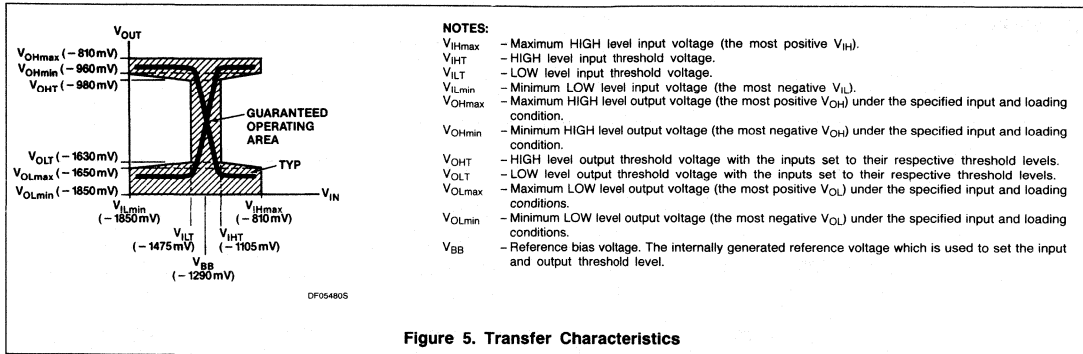

Figure 5. Transfer Characteristics
3. The specified limits shown in the DC Characteristics can be met only after thermal equilibrium has been established. Thermal equilibrium is established by applying power for at least 2 minutes while maintaining transverse air flow of 2.5meters/s (500 linear feet/min) over the device either mounted in the test socket or on the printed circuit board. Test voltage values are given in the DC Operating Conditions and defined in Figure 5.